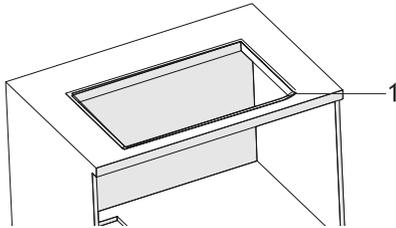

Fig. 16
1. ➔ Attach the supplied sealing gasket around the discharge (Fig. 16).